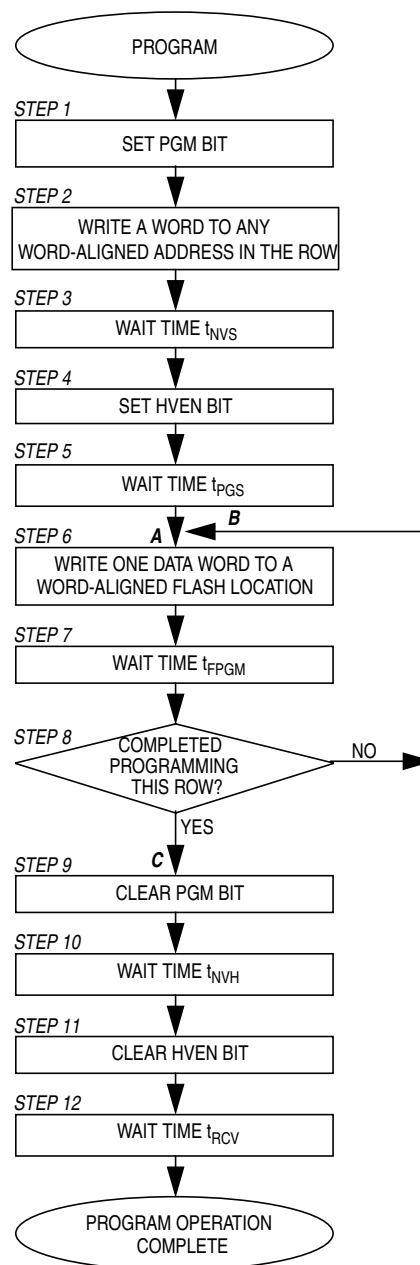

Figure 5. FLASH Program Operation Flowchart
Figure 5 shows the flowchart for the programming algorithm.
t_{FPGM} is the 1-word programming time. t_{FPGM} actually includes the total time from step 6 (A on the flowchart) back to step 6 (B on the flowchart) for additional word programming, or from step 6 (A) to step 9 (C on the flowchart) for the last word. This total time must be between 30 and 40 μs in both cases. Refer to Figure 5.